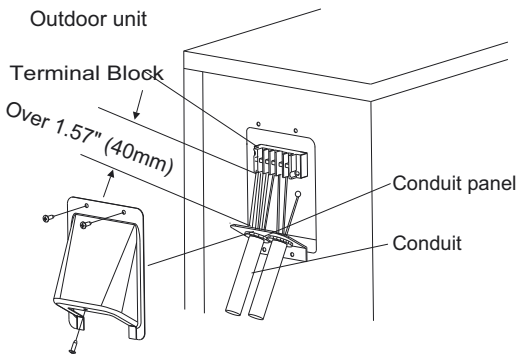

Fig. 12 — Field Wiring
5. Connect the conduit to conduit panel (see Fig. 12).